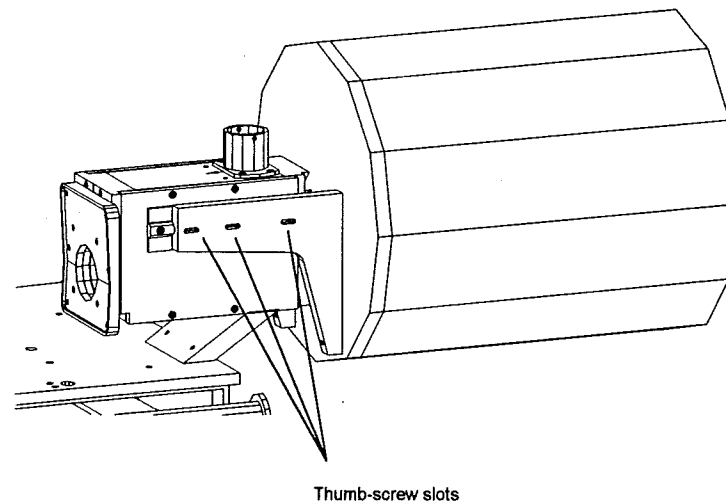

Figure 16. Telescope mounted on input collimator
- b) Pull out the telescope as far as possible away from the collimator. See Figure 16.